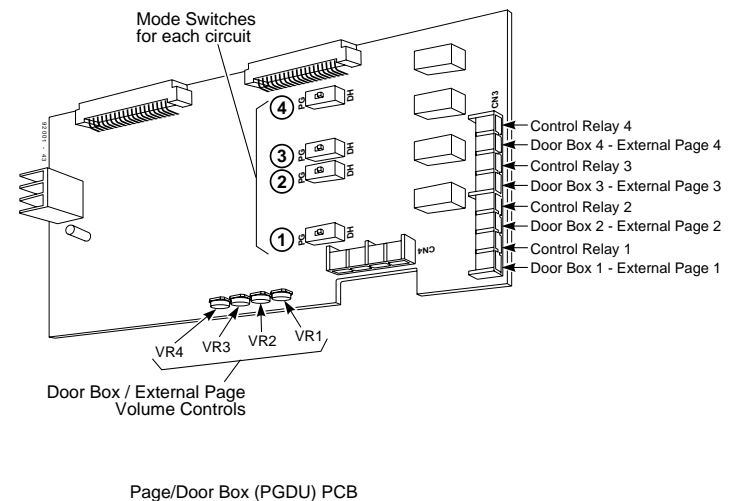

Figure 4-10 CONNECTING TO THE PGDU
4. Plug the DDK connector into the Control Relay (1-4) connector on the PGDU PCB (Figure 4-10).